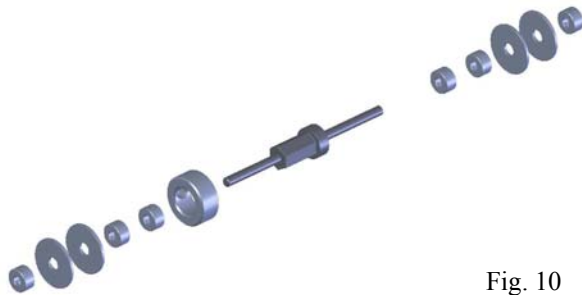

Fig. 10
**Step One: Make up the Axle Assembly** (*figure 10*)
Obtain the necessary components to construct the axle assembly illustrated in figure 10. Use only the hex adapter and set the remaining components aside for later use.